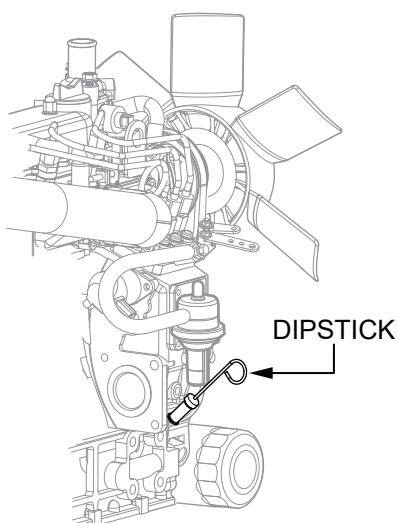

Figure 13. Engine Oil Dipstick
2. Remove the **engine oil dipstick** from its holder (Figure 13) and wipe it clean.